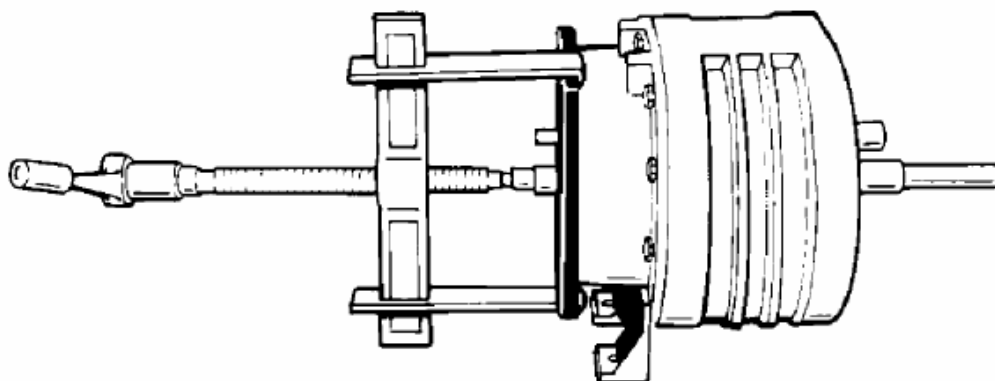

FIGURE 6-6
14. Remove the four cap screws (10), which fasten the bearing retainers (12) to the gear headplate.
16. Install a gear puller to one of the shafts and attach puller arms to the plate (see Figure 6-6).
17. Remove mounting foot (17) from the gear headplate by removing 4 capscrews (16).
18. Push the impeller shaft through the gear headplate and remove the impeller assembly(23) (see Figure 6-6). Remove the other impeller assembly following the same procedure.
19. Remove the cap screws (21) securing the gear headplate to the impeller case. Located near each dowel pin on the headplate is a threaded hole. Insert a 5/16-18 UNC capscrew into each of the threaded holes. Tighten the screws evenly until the headplate separates from the impeller case.
20. Remove the two gear and bearings (14) from the gear headplate (18) as done in step 12.
21. Remove the oil seals (15) from gear headplate (19) as done in step 13.